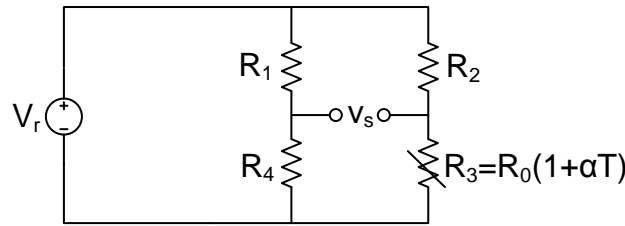
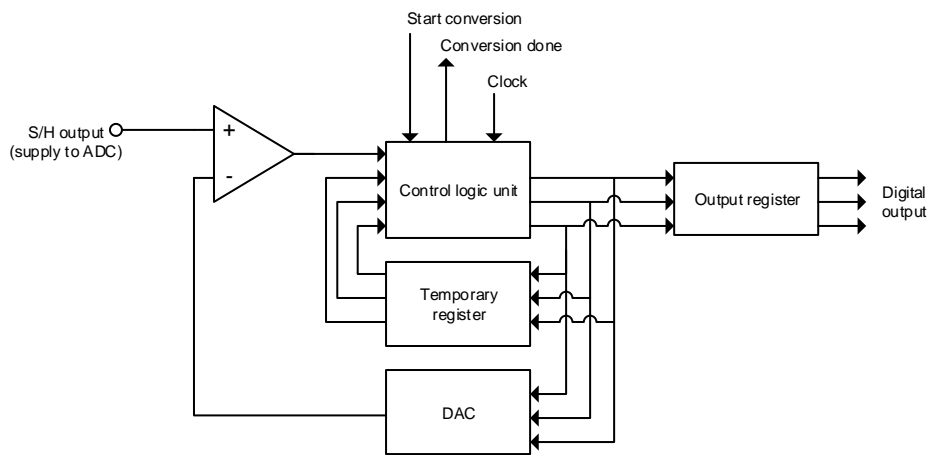

Figure 1: Bridge circuit with a RTD temperature sensor.
Figure 2: Successive approximation AD converter.
A resistive temperature detector (RTD) can be used to measure the temperature of an object. Figure 1 shows a bridge circuit with an RTD which is exposed to a temperature T . This temperature will be in the range $[-30^{\circ}\text{C}, 80^{\circ}\text{C}]$. The RTD is a PT100 sensor with $R_0 = 100\ \Omega$ and $\alpha = 0.004/^{\circ}\text{C}$ at 0°C .
- (6p) (e) The output voltage v_s of the bridge circuit shown in Figure 1 can be digitized using a successive approximation AD converter like the one shown schematically in Figure 2. Explain (maximal 500 words) how the successive approximation AD converter works. You may also draw a figure to illustrate its operation.